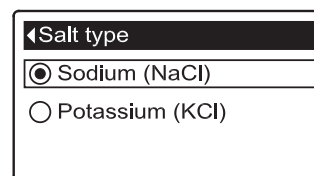

FIG. 92
5. Press the SELECT (O) button to display the Salt type menu (See Figure 92).
6. If the desired salt type already has a black dot next to it (See Figure 92), go to Step 7. Otherwise, press the conditioner/refiner's DOWN (▼) or UP (▲) buttons to scroll to the other salt type, then press SELECT (O) to choose it.
7. Press the SELECT (O) button. The display will go back to the Salt settings menu.